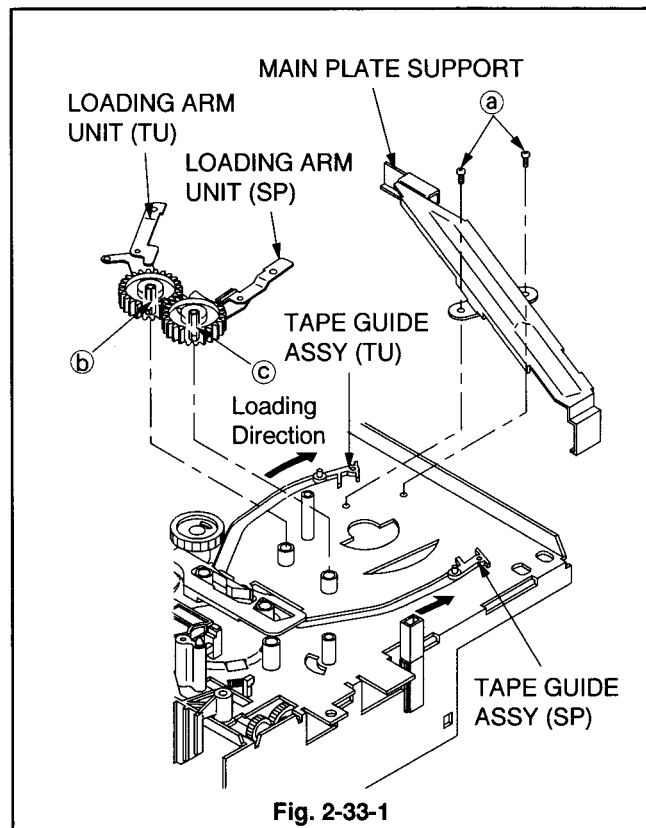

Fig. 2-33-1
- 1 Unscrew the MAIN PLATE SUPPORT fastening the two screws (a) shown in Fig. 2-33-1 to remove the MAIN PLATE SUPPORT.
- 2 Move the TAPE GUIDE ASSY (SP) and TAPE GUIDE ASSY (TU) shown in Fig. 2-33-1 fully to the loading position.
- 3 Unfasten the catch (b) on the surface of the LOADING ARM UNIT (TU) shown in Fig. 2-33-1 with tweezers, etc. to remove the LOADING ARM UNIT (TU).
- 4 Unfasten the catch (c) on the surface of the LOADING ARM UNIT (SP) shown in Fig. 2-33-1 with tweezers, etc. to remove the LOADING ARM UNIT (SP).
- 2 Install the LOADING ARM UNIT (SP) shown in Fig. 2-33-1.
- 5 Move the TAPE GUIDE ASSY (SP) and TAPE GUIDE ASSY (TU) shown in Fig. 2-33-1 fully to the unloading position.
- 6 Install the MAIN PLATE SUPPORT shown Fig. 2-33-1.
- 1 Move the TAPE GUIDE ASSY (SP) and TAPE GUIDE ASSY (TU) shown in Fig. 2-33-1 fully to the loading position.
- 4 Move the TENSION ARM shown in Fig. 2-34-4 fully to the direction shown by the arrow. Move the TAPE GUIDE ASSY (SP) and TAPE GUIDE ASSY (TU) shown in Fig. 2-33-1 fully to the unloading position.